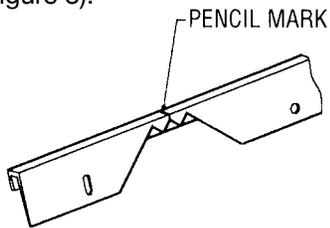

Figure 3
2. Snip-out material from wall leg to create a gap that will allow the punch tip through and over room leg (see figure 3).